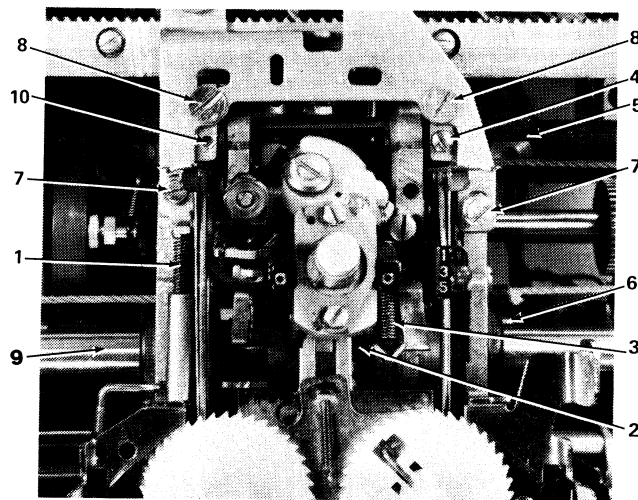
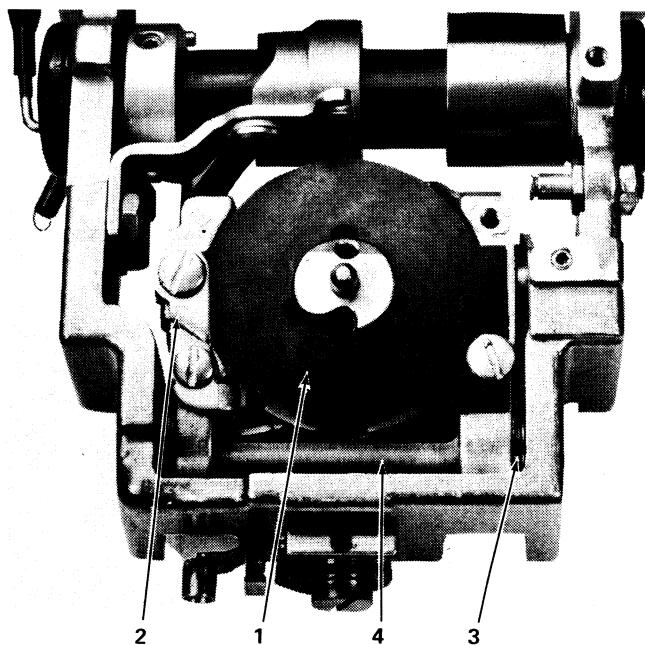

Figure 4-35. Carrier and Rocker Removal (Top of Carrier)
Figure 4-36. Carrier and Rocker Removal (Bottom of Carrier)
1. Disconnect the ribbon lift spring (No. 1, Figure 4-35).
2. Release rotate spring tension (No. 2, Figure 4-35).
3. Remove the tilt pulley spring (No. 3, Figure 4-35).
4. Remove the tape anchor screw (No. 4, Figure 4-35).
5. Remove the tilt and rotate tapes (No. 5, Figure 4-35).
6. Unhook the velocity control tape from the bracket assembly (No. 6, Figure 4-35).
7. Remove the card holder. (No. 7, Figure 4-35).
8. Mark the position of the escapement bracket and remove the escapement bracket mounting screws (No. 8, Figure 4-35).
12. Remove the print shaft (No. 9, Figure 4-35) by moving it to the left.
15. Remove the rotate spring cage and pulley (No. 1, Figure 4-36).
16. Remove the tape guide (No. 2, Figure 4-36).
17. Remove the C-clip on the rocker shaft (No. 3, Figure 4-36).
18. Loosen the rocker shaft setscrew (No. 10, Figure 4-35) and remove the rocker shaft (No. 4, Figure 4-36).